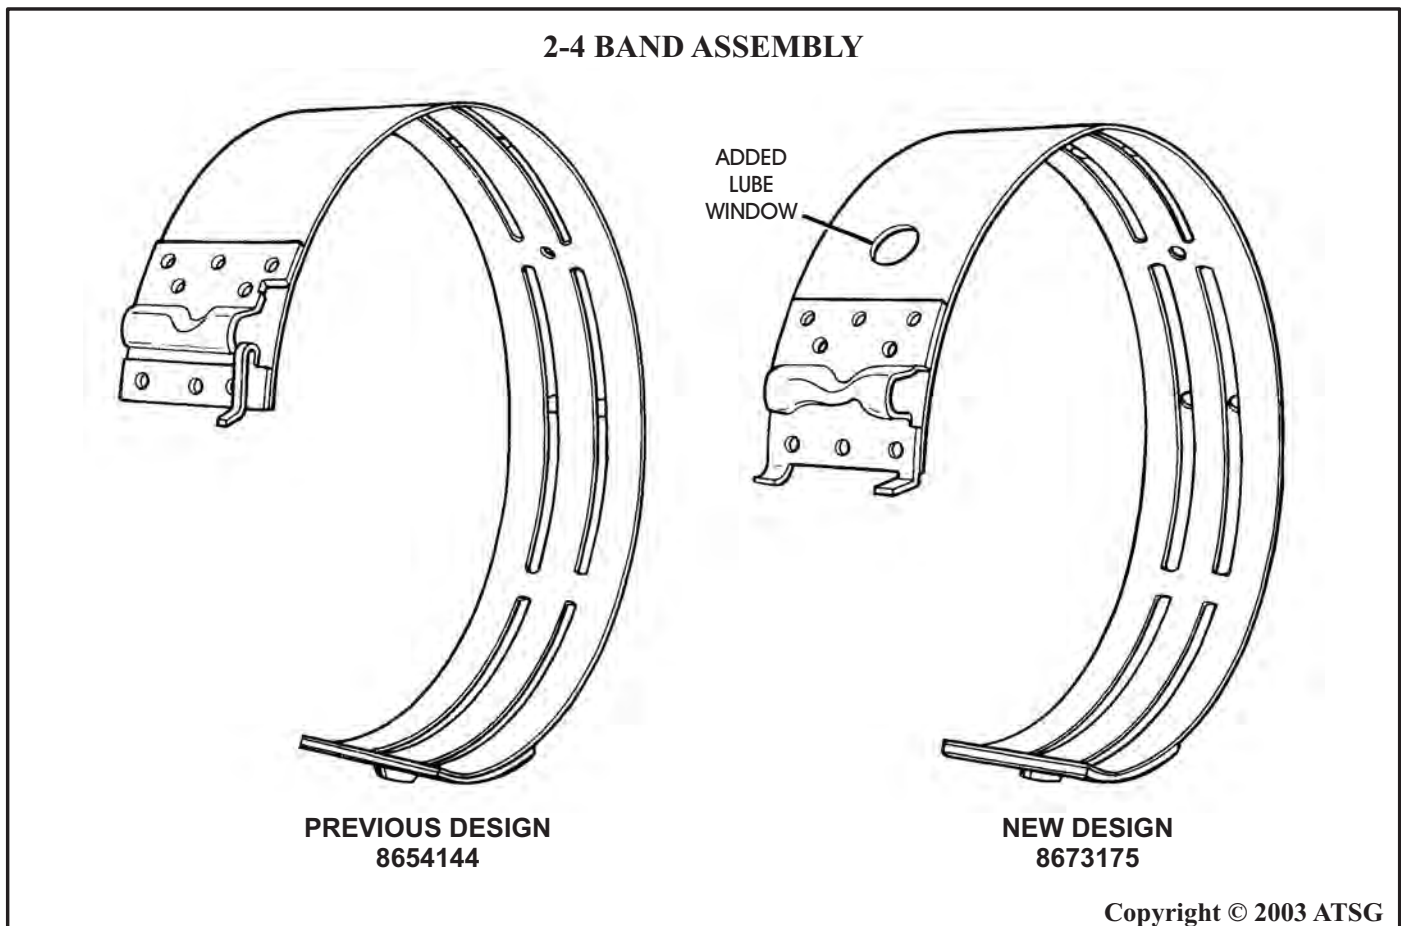

Figure 65
CHANGE: Beginning on September 8, (Julian Date 251) 1990, there was a new design 2-4 band went into production that has an added lube window, as shown in Figure 65. Also notice the modifications to the apply anchor, and the locating tabs.
- (1) 2-4 BAND ASSEMBLY - Changes to the 2-4 Band include modification of the apply and anchor brackets, locating tabs, and the addition of a lube window, as shown in Figure 65.